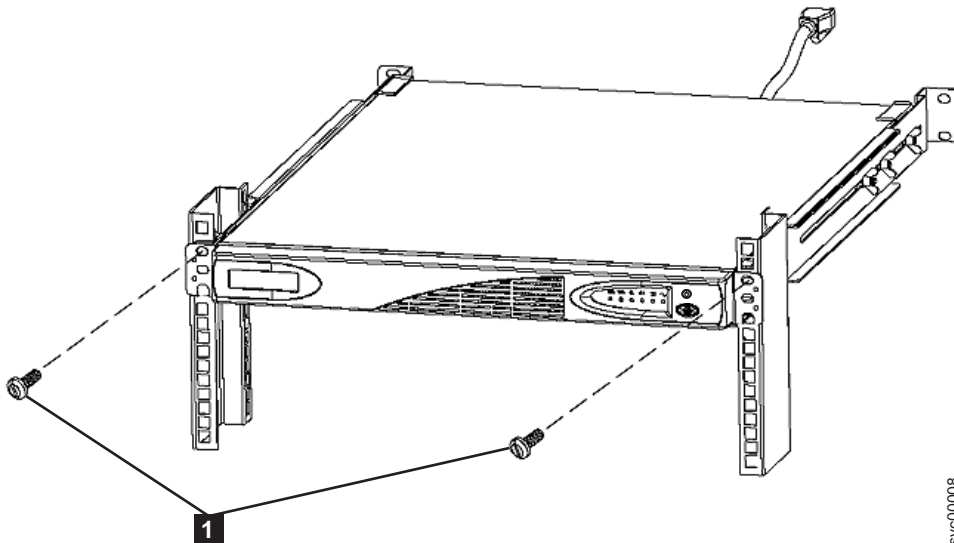

Figure 314. Mounting screws for the 2145 UPS-1U
9. At the front of the 2145 UPS-1U, unscrew the two mounting screws **1**, as shown in Figure 314.